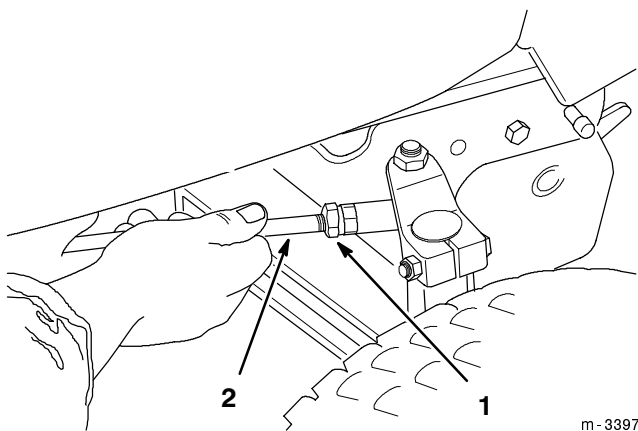

Figure 40
- Loosen the jam nuts at the ends of the steering rods (Fig. 40).